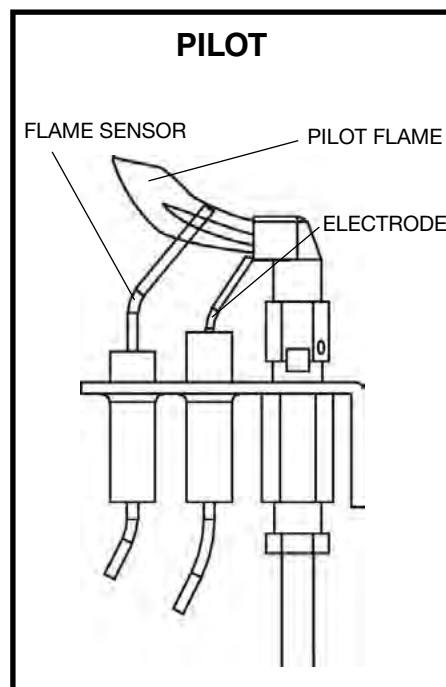

Figure 127: SIT pilot assembly.
- Check the pilot system for proper flame size and operation. Clean pilot free of soot, dust or any other deposits (Figure 127 and Figure 128). Have a qualified service person adjust the pilot flame.